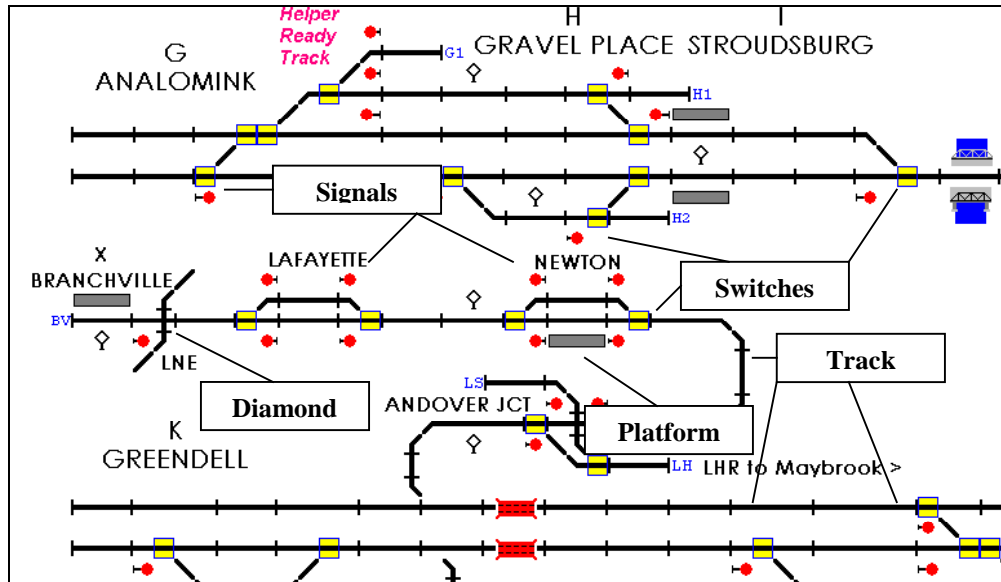

Figure 3 - Track Symbols
The track diagram has a number of symbols to represent tracks, switches, diamonds, signals, trains, etc. Many of these symbols are shown in Figure 3.
- ◆ Press a key that represents a station call up character. Each station name on the screen has a station call up character assigned. These call up characters are displayed above the station names. In Figure 3 the “Analomink” station is assigned a call up character of “G”. If, for example, you press the “G” key the screen will scroll to position the “Analomink” station as close to the center of the screen as possible.